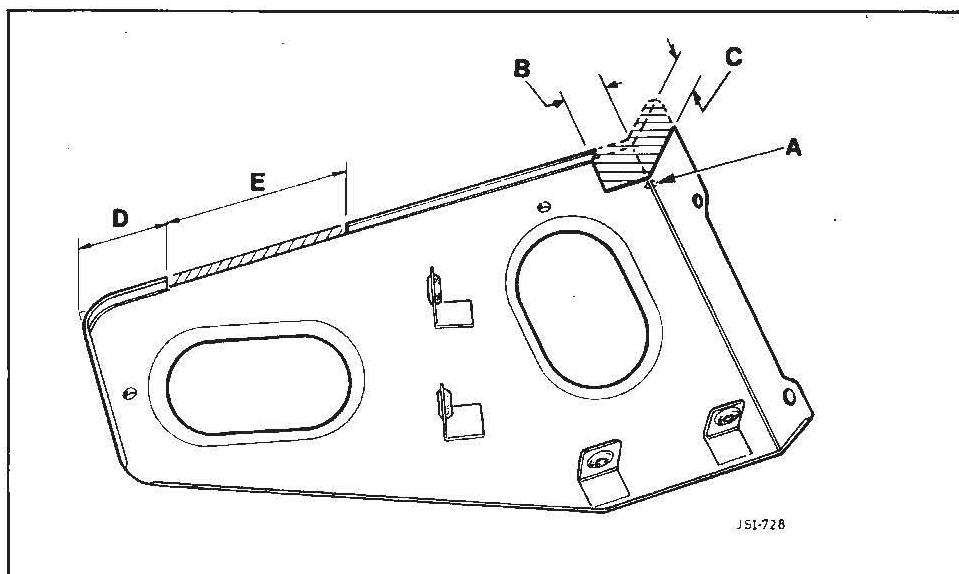

FIG 4
- 2) Before securing the bracket, place it in position to check the clearance at this point. If the bracket touches the wing, remove the corner section as shown in Fig.4; dimensions 'B' and 'C' are 15 mm (0.6 in).
2. Alternatively, remove a flange section to the dimensions referred to on Fig.4, where 'D' = 50 mm (2 in.) and 'E' = 100 mm (4 in).